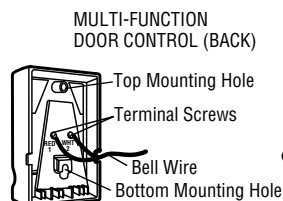

Figure 4
2. Remove cover by gently prying at slot in the side of the cover with a small flat head screwdriver (Figure 4). Fasten with 6ABx1-1/4" self-tapping screws (drywall installation) or 6-32x1" machine screws (into gang box) as follows: